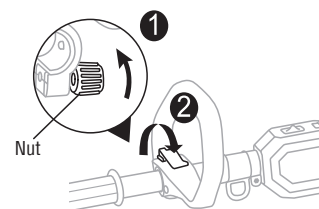

Fig. 2C
3. Move the front assist handle up or down to the desired position, then fully tighten the nut to fasten it in place (Fig.2C)